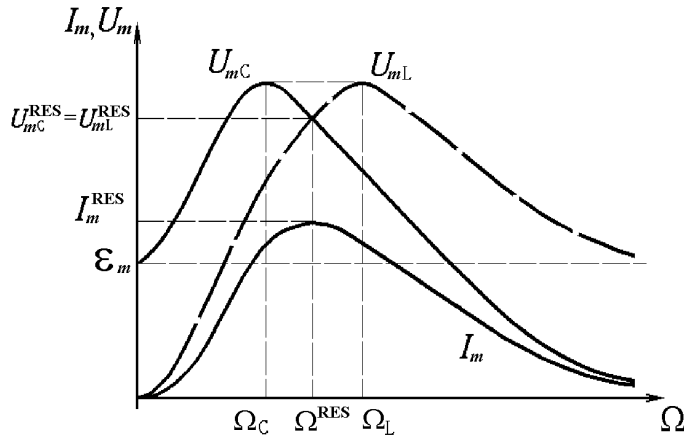

Figure 13 – Amplitude – frequency characteristics: capacitance, inductance voltages and current's amplitudes versus driving frequency Ω .
As it seen from Fig. 13 at $\Omega_{RES} = \omega_0$ amplitudes U_{mC}^{RES} and U_{mL}^{RES} are numerically equal but not maximal !! Difference of frequencies $\Omega_L - \Omega_C$ is smaller than greater quality of the circuit is. At high quality factor $\Omega_C \approx \Omega_{RES} = \omega_0 \approx \Omega_L$.
Facility's scheme represented on Fig.13. There we have capacitor C (one value from the set of capacities), inductor L (one value from the set of inductances) and resistor R (one value set on resistance box). The real inductance L has its own active resistance R_L . Such inductance is equivalent to series RL circuit. As driving EMF
If we'll change the frequency of generator then phase lag between current and EMF also will be changed as the reactance changes. As it seen from (63), (64) and Fig.13, at low frequencies $u_L < u_C$ and $u_L > u_C$ at high. Obviously that there will be some frequencies $\Omega_C = \Omega_L$ at which $u_C = u_L$ and get maximum.